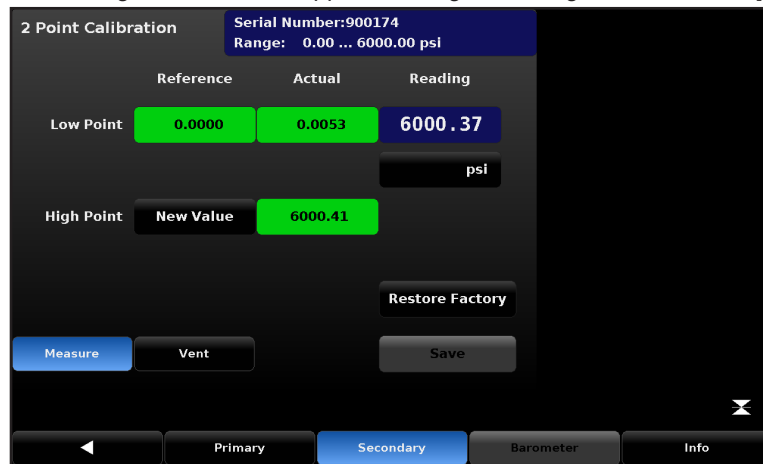

Figure 6.4.2.5.2-6 – High Point ‘Actual’
6. Press the [New Value] button and enter the “true pressure”. This value is obtained from the pressure measured by the calibration standard. After the value has been accepted by pressing the check mark [✓] on the numeric keypad, the value will appear with a green background where the [New Value] button was. This completes the ‘High Point’ calibration. See Figure 6.4.2.5.2-6